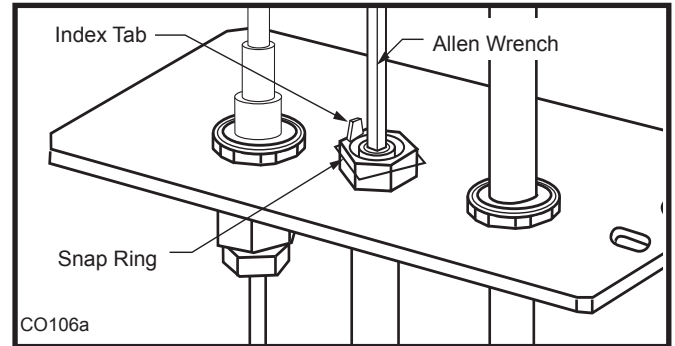

Fig. 69 Remove pilot orifice.
- Remove pilot orifice with Allen wrench. (Fig. 69)